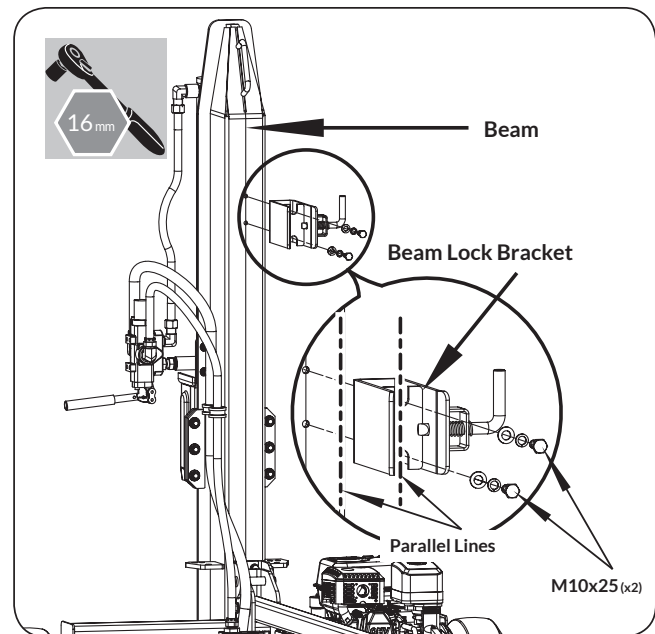

Figure 8a
1. When mounting the lock latch assembly, make sure the latch rod side of the bracket is on the same side as the engine. Install the beam lock bracket to the beam by using the beam lock M10x25 bolts, spring washer, and flat washers. (See **Figure 8a**)